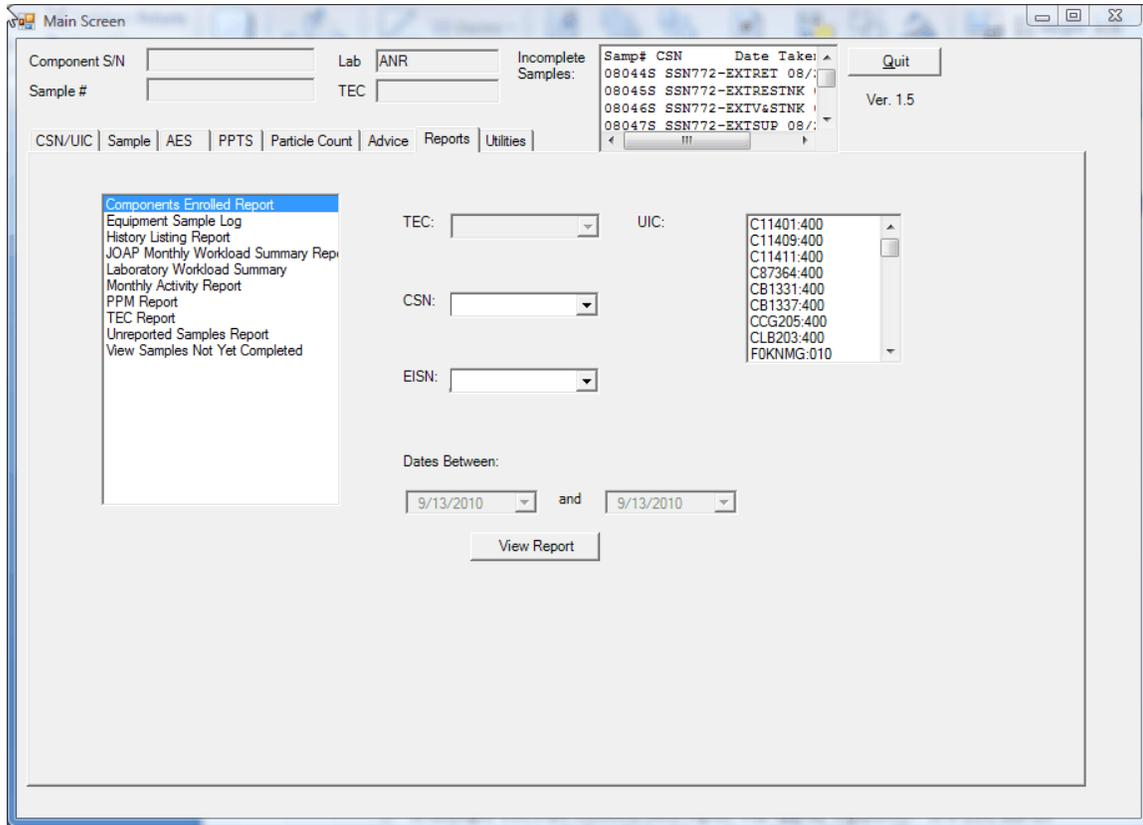

Figure 42. Components Enrolled Report
- (1) Click on components enrolled report and the following screen will appear (Figure 42). Components enrolled is done at the end of every month to show the command what components are in the oil program, when they were last sampled, and if they are delinquent.